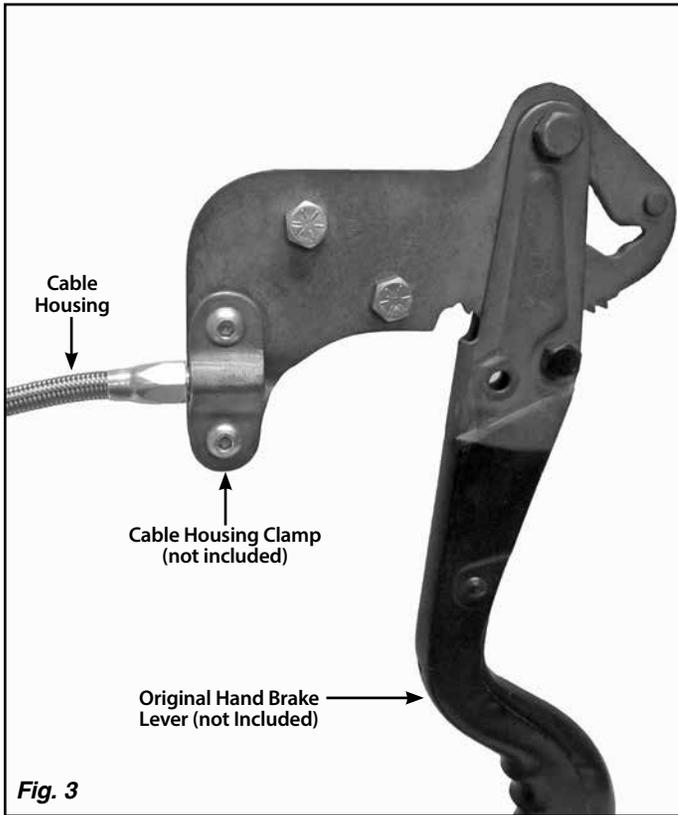

Fig. 3
Step 2: Install the new cable housing into the Dodge hand brake mechanism under the dash, using the original Dodge cable housing clamp (not included) as shown in Fig. 3.